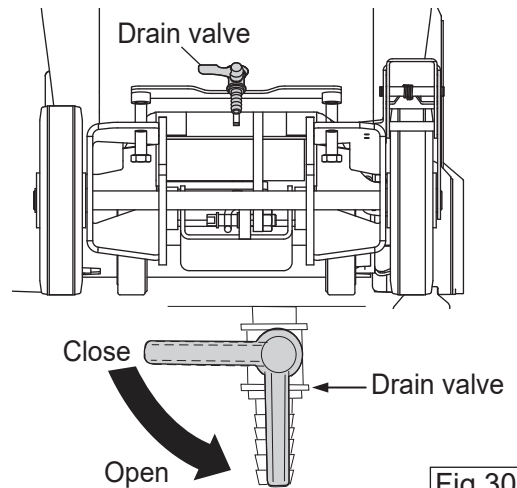

Fig.30
5. Drain water from the water tank. (Fig.30)